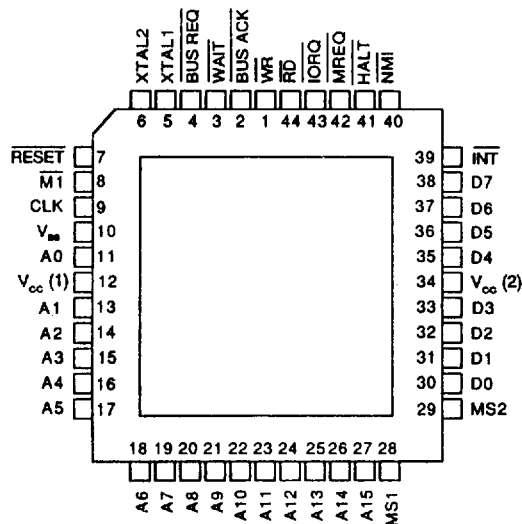

Figure 1. Pin Connections (Top View)
**Pin Connections.** The pin connections of the Z84C01 are as shown in Fig. 1.